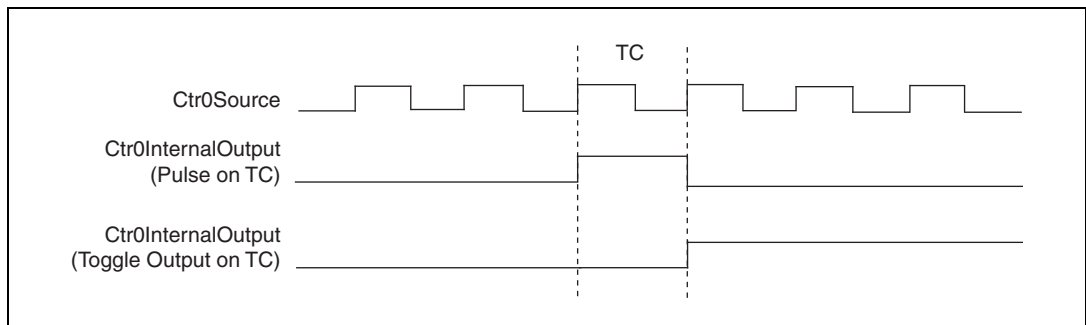

Figure 7-5. Counter 0 Internal Output Signal Behavior
The Counter 0 Internal Output (Ctr0InternalOutput) signal is the output of Counter 0. This signal reflects the terminal count (TC) of Counter 0. The counter generates a terminal count when its count value rolls over. The two software-selectable output options are pulse on TC and toggle output polarity on TC. The output polarity is software-selectable for both options. Figure 7-5 shows the behavior of the Counter 0 Internal Output signal.